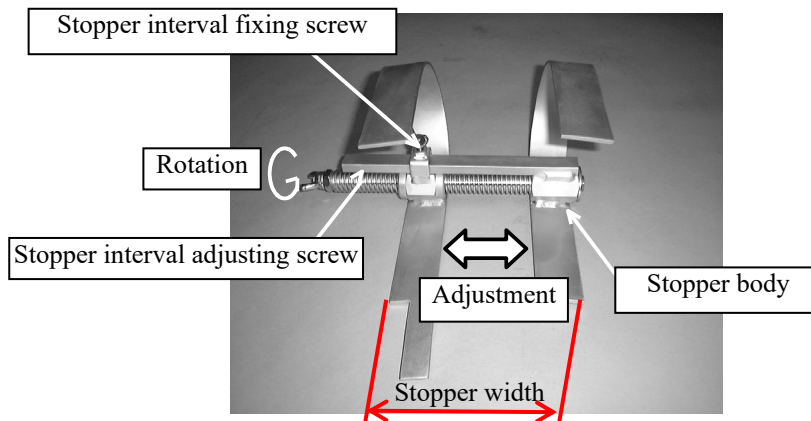
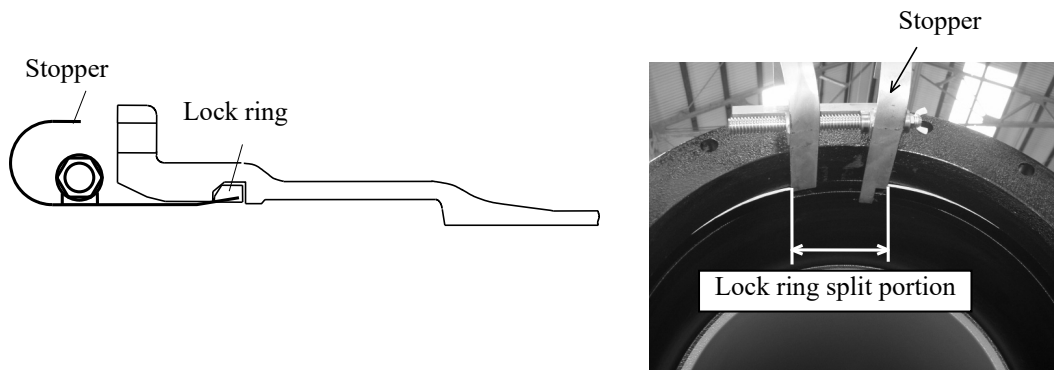

Figure 7 Stopper overview
Figure 8 Stopper installation
- (3) As illustrated in Figure 7, the stopper width can be adjusted by the stopper interval adjusting screw. As illustrated in Figure 8, insert the stopper into the lock ring split portion by adjusting the stopper width, and remove the lock ring expander.